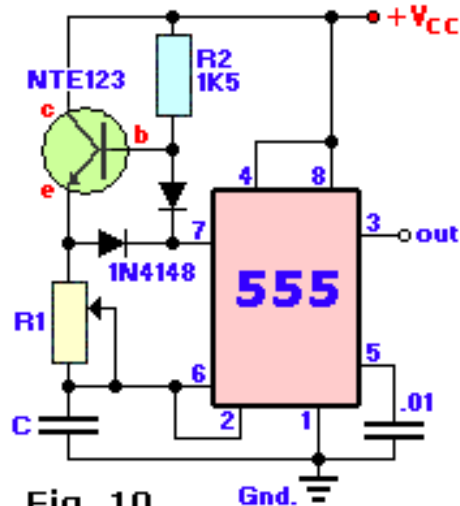

Fig. 10
Fig. 10, Better Timing: Better and more stable timing output is created with the addition of a transistor and a diode to the R-C timing network. The frequency can be varied over a wide range while maintaining a constant 50% duty-cycle. When the output is **high**, the transistor is biased into saturation by R2 so that the charging current passes through the transistor and R1 to C. When the output goes **low**, the discharge transistor (pin 7) cuts off the transistor and discharges the capacitor through R1 and the diode. The high & low periods are equal. The value of the capacitor (C) and the resistor (R1 or potmeter) is not given. It is a mere example of how to do it and the values are pending on the type of application, so choose your own values. The diode can be any small signal diode like the NTE519, 1N4148, 1N914 or 1N3063, but a high conductance Germanium or Schottky type for the diode will minimize the diode voltage drops in the transistor and diode. However, the transistor should have a high beta so that R2 can be large and still cause the transistor to saturate. The transistor can be a TUN (europe), NTE123, 2N3569 and most others.